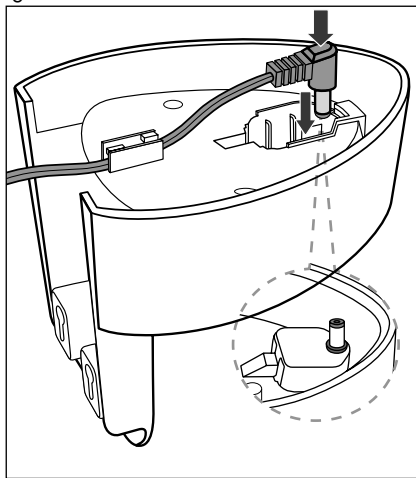

Fig. 2
- First, feed the cable through the cable routing and then push the barrel plug ⑤ into the opening in the wall bracket ③ so that it is firmly in place (fig. 2).